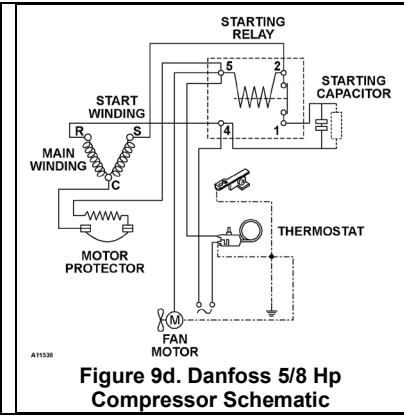
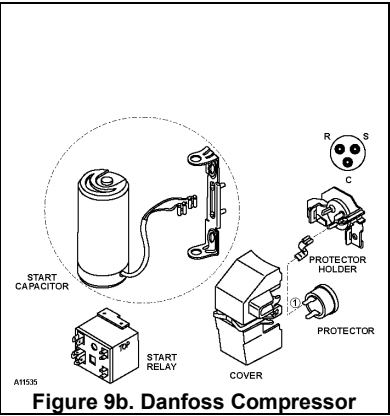

Figure 9d. Danfoss 5/8 Hp Compressor Schematic
Figure 9b. Danfoss Compressor
Danfoss 5/8 HP – Remove relay from compressor. See Figure 9b and Figure 9d on pages 30 and 30.
3. **Check compressor windings** using ohmmeter. Refer to Table 1, Figure 9b, and Figure 9d on page 30.